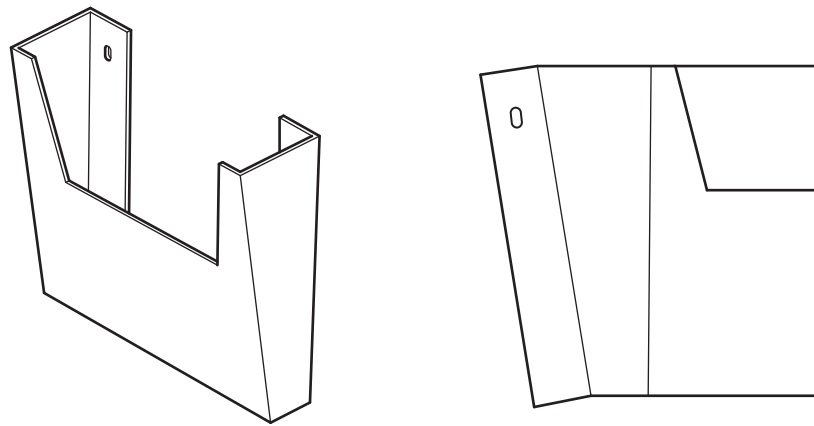

Fig. 5.1
- 5 Fig. 5.1 shows a leaflet holder made from acrylic sheet. A screen shot of an incomplete CAD drawing of the left-hand side of the development (net) of the leaflet holder is also shown.